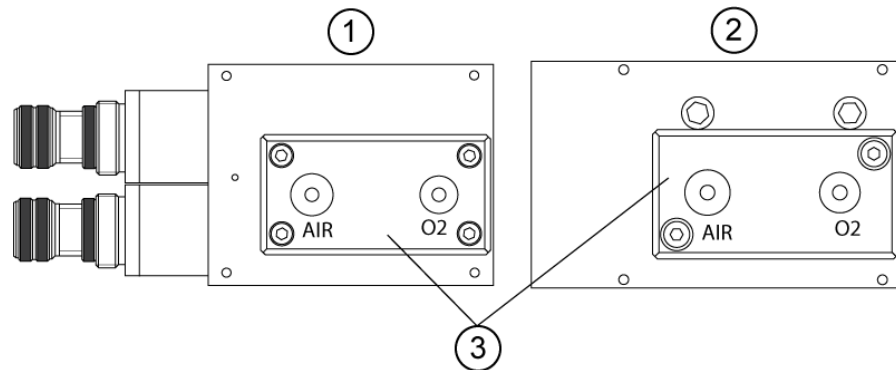

Fig. 23 Connection side of the gas connection blocks
- If the gas connection plate on the back of the device is secured with four screws, then it is a Dräger gas connection block, see also Fig. 23/1. With the FAS gas connection block, the gas connection plate is secured with two screws only - see also Fig. 23/2.